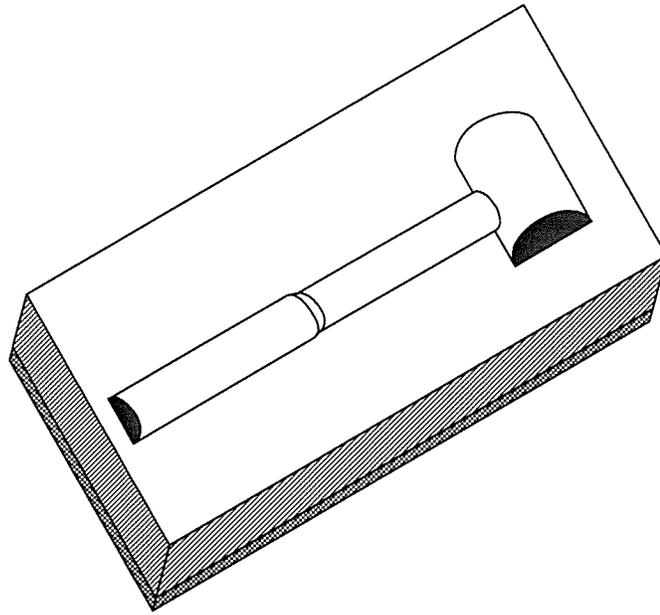

Figure 5-21. Pre-Cut Insert
- u. The Pre-Cut Insert (Figure 5-21) is a two-piece foam insert. The two-piece assembly consists of a solid foam underlay and a piece of thicker foam cut to match tool shape. These two pieces are adhered together and installed into the toolbox.